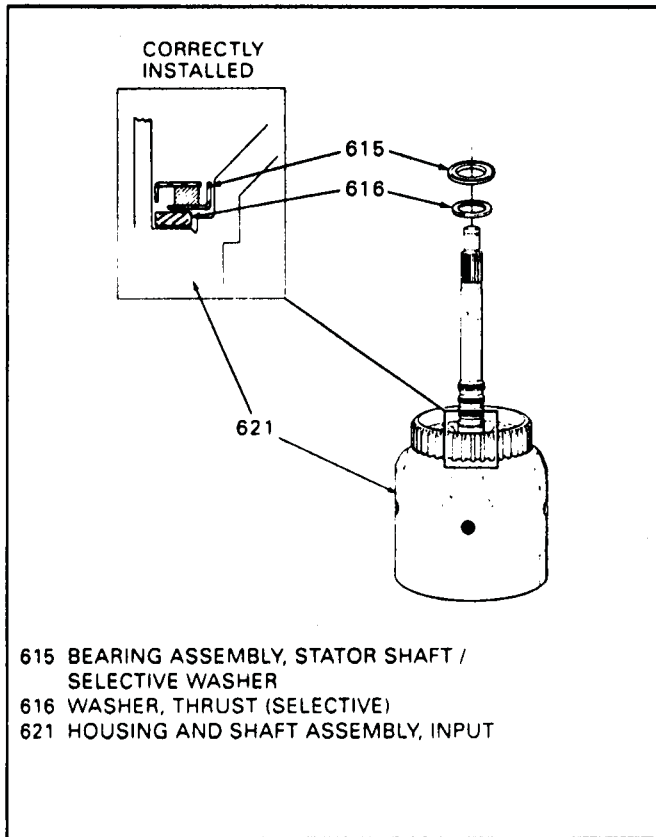

Figure 130
1. Make sure that your selective washer and thrust bearing assembly have been installed properly onto the input housing, as shown in Figure 130.